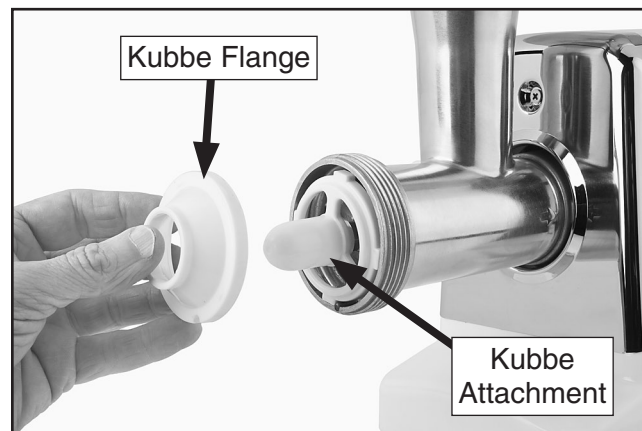

Figure 13. Installing kubbe attachment.
3. Insert the kubbe attachment onto the auger, then place the kubbe flange over the attachment, as shown in **Figure 13**.